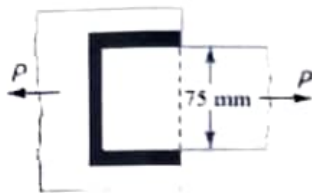

Fig. 1
- Q6 A double riveted lap joint is made between 15 mm thick plates. The rivet diameter and pitch are 25 mm and 75 mm respectively. If the ultimate stresses are 400 MPa in tension, 320 MPa in shear and 640 MPa in crushing, find the minimum force per pitch which will rupture the joint. If the above joint is subjected to a load such that the factor of safety is 4, find out the actual stresses developed in the plates and the rivets. (10)
- Q7 A plate 75 mm wide and 12.5 mm thick is joined with another plate by a single transverse weld and a double parallel fillet weld as shown in Fig. 1. The maximum tensile and shear stresses are 70 MPa and 56 MPa respectively. Find the length of each parallel fillet weld, if the joint is subjected to both static and fatigue loading. (10)